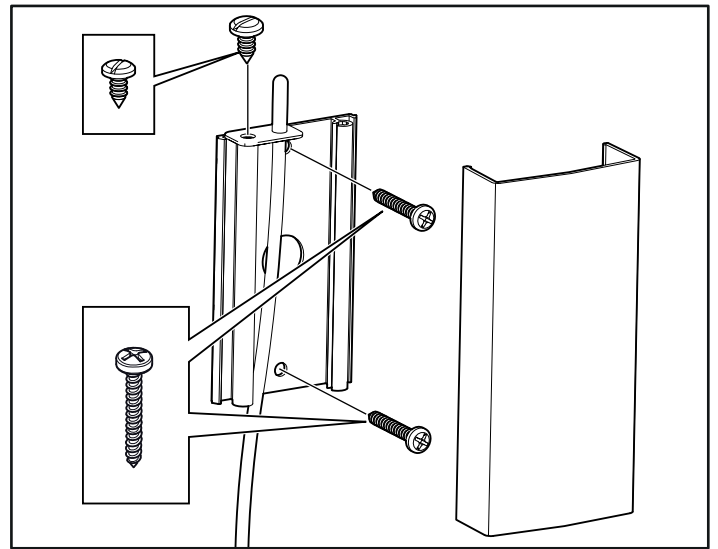
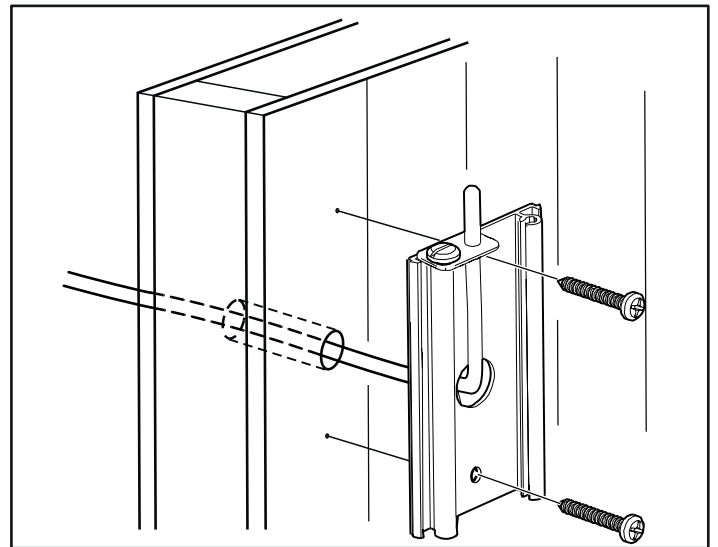

Figure 21: Installing the sensor
Figure 22: Wiring through the wall.
3. Install the sensor on the wall see Fig 21. The thermistor wire may also be passed through the wall. Seal any holes in the wall behind the sensor, see Figure 22. The thermistor wire may be extended outside the sauna using low voltage wire (2-lead).